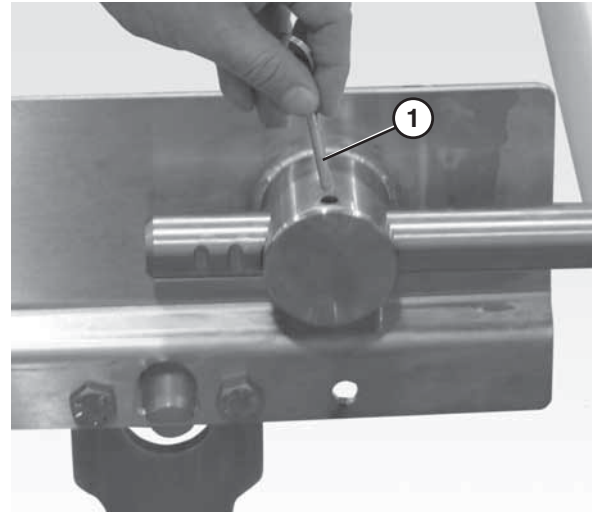

Figure 60
1. Remove the pull pins (Figure 60, item 1) on the tension end of the conveyor to release tension on the belt.